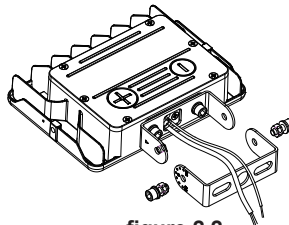

figure 2.2
Step 3: Fix the lamp and bracket together with screws; (Watch out not to scratch the wire)(figure 2.2)